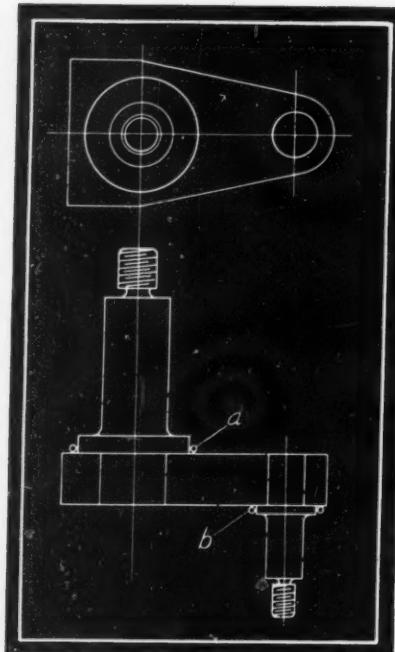

Fig. 6—Method of brazing crank assembly. Both *a* and *b* indicate brazing wires
*Fig. 6* represents another shape and still another method of obtaining a construction by brazing with evidence of considerable machining savings. For the